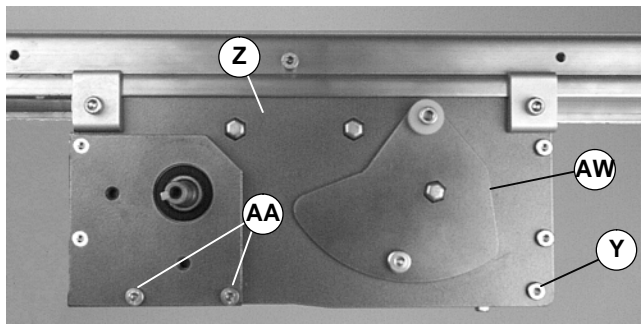

Figure 36
12. Tighten screw (Y of Figures 36) on each side to 80 in-lb (9 Nm).
13. Replace screws (AA of Figure 36) on each side of center drive module (Z). Tighten screws to 80 in-lb (9 Nm).
**NOTE:** For a new belt, the tension plate will be in position (AW of Figure 36). When tension plate extends to position (AX of Figure 37), the conveyor belt must be replaced.